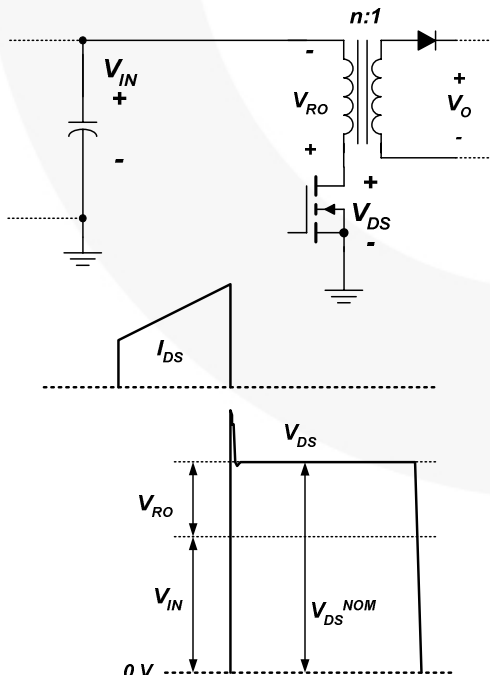

Figure 3. Output Voltage Reflected to the Primary
When the MOSFET is turned off, the input voltage ( $V_{IN}$ ), together with the output voltage reflected to the primary, ( $V_{RO}$ ) are imposed across the MOSFET, as shown in Figure 3. With a given  $V_{RO}$ , the maximum duty cycle ( $D_{MAX}$ ) and the maximum nominal MOSFET voltage ( $V_{DS}^{NOM}$ ) are obtained as:
As can be seen in Equation (7), the voltage stress across the MOSFET can be reduced by reducing  $V_{RO}$ ; however, this increases the voltage stresses on the rectifier diodes in the secondary side. Therefore,  $V_{RO}$  should be determined by a trade-off between the voltage stresses of MOSFET and diode. Because the actual drain voltage rises above the nominal MOSFET voltage due to the leakage inductance of the transformer, as shown in Figure 3, it is typical to set  $V_{RO}$  around 70~100V so that  $V_{DS}^{NOM}$  is 430~450V for 600V MOSFET (73~78% of MOSFET voltage rating).